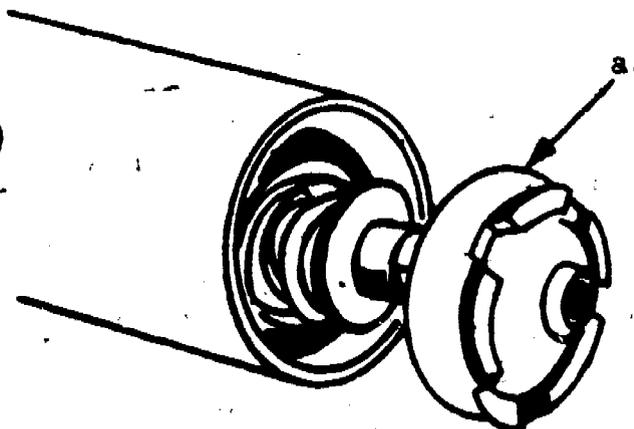

Figure 2.
STEP 3. Unscrew and remove cover (Item a in Figure 2).